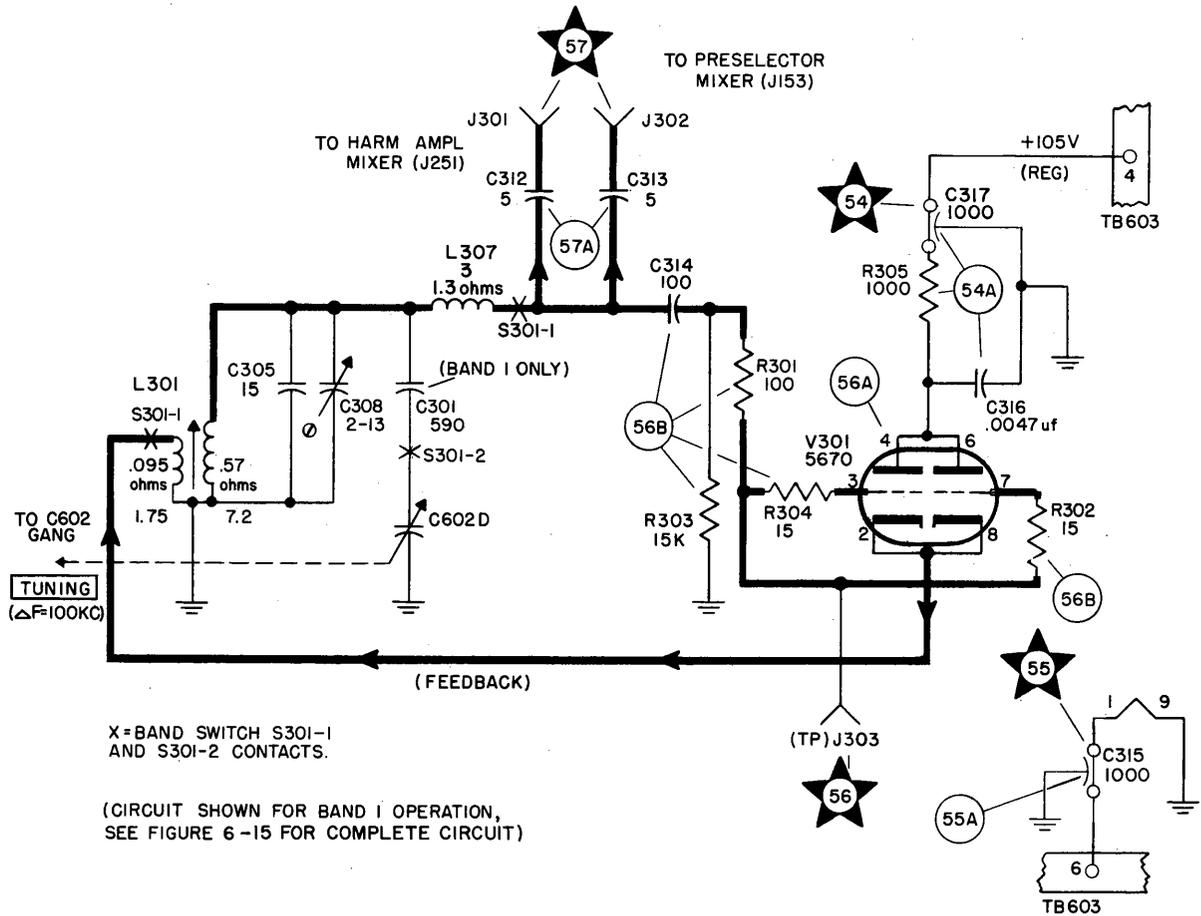

Figure 5-35. High-Frequency Oscillator, Functional Schematic Diagram
a. FUNCTION.— The high-frequency (HF) oscillator (V301) generates a local RF signal, which is applied to the preselector mixer (V151) to heterodyne the received signal to the first IF frequency of 1,625 kc to 1,725 kc and which is applied also to the harmonic amplifier mixer (V251) to generate the 825 kc injection signal. Faulty operation of the HF oscillator will affect the output of both the preselector mixer and the injection signal, disabling the receiver. Figure 5-35 is a functional schematic diagram of the HF oscillator.